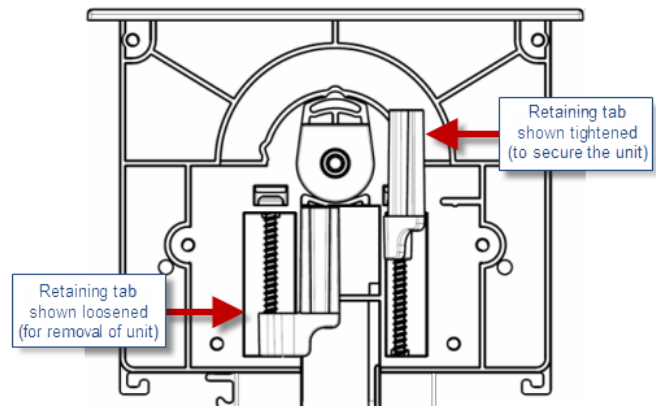

FIG. 4 HPX Base Assembly (shown mounted) - Mounting Screws Locations
FIG. 4 provides a cutaway view of the End Cap, showing the retaining tabs in both the loose position and the tightened (secure) position:
2. Tighten the four mounting screws (loosened in Step 1, see FIG. 4) located inside and at each end of the HPX base assembly, to rotate the retaining tabs into locking position under the mounting surface.